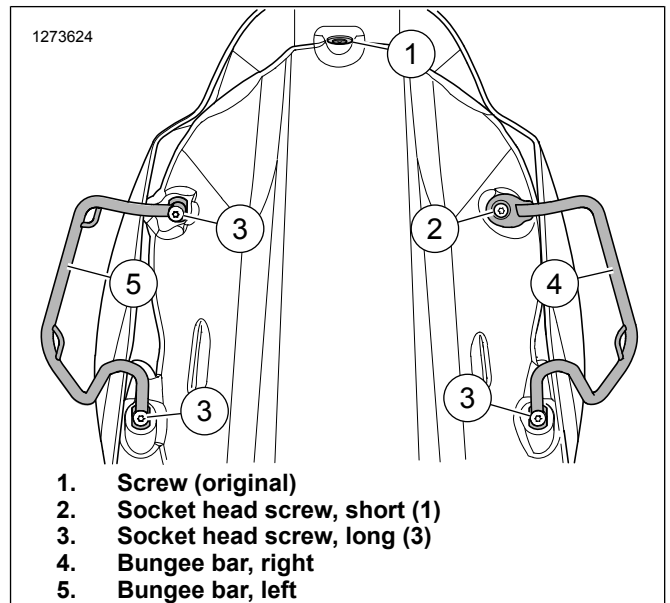

Figure 6. Bungee Bar Installed
- See Figure 6. Install top screw (1). Tighten.
5. See Figure 6. Repeat step 4 for left bungee bar (5).